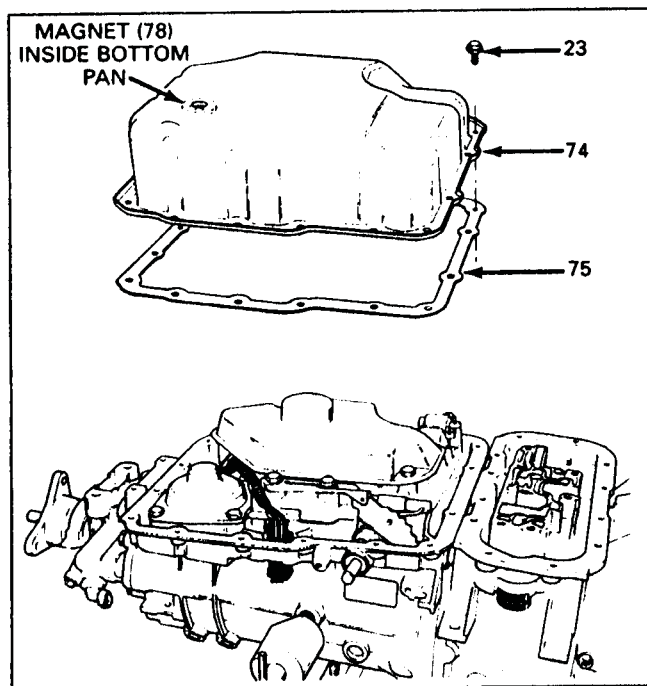

Figure 10
1. Remove the 16 main case bottom pan bolts using a 10mm socket as shown in Figure 10.
2. Remove main case bottom pan and the bottom pan gasket (Figure 10).